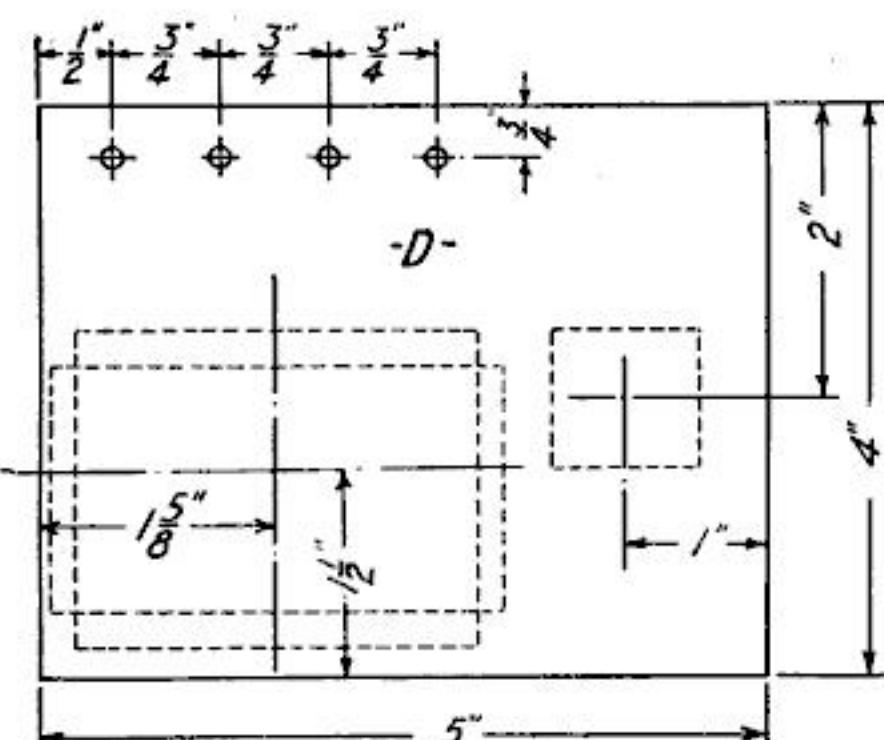

Fig. 5. Plan of arrangement of parts, with dimensions
The base (D) and the standard (E) are made of hard wood. The base should be about  $\frac{1}{2}$ " thick. In Fig. 5, the plan of the arrangement of the parts is shown. The four small holes shown